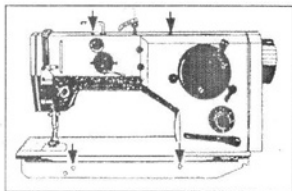
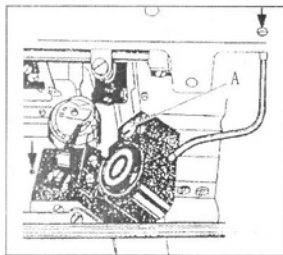

Fig.3
Fig.4
Clean the machine completely before operate it daily, and check the oil quantity of hook oil tank. Then inject oil as arrow shows in fig.3 and fig.4, start operation of machine.
12、 The hook lubricating condition adjustment(Fig.4)